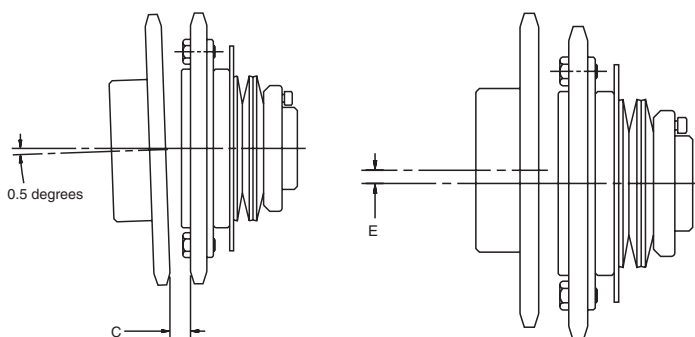

Figure 3
- Angular misalignment should be held within 0.5 degrees. To indicate measure dimension "C" along outside edge of sprocket in at least three locations (Figure 3).